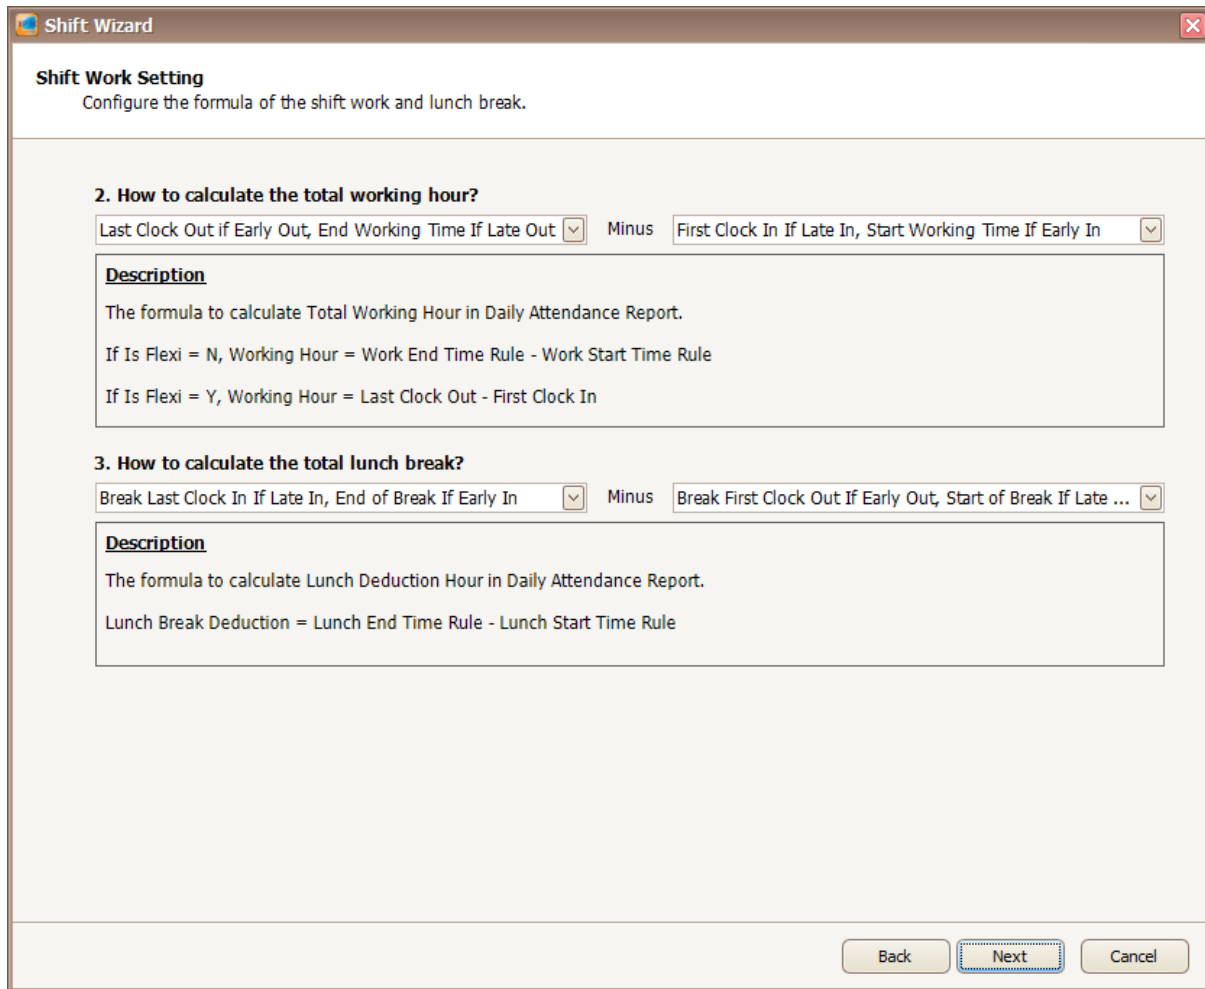

Figure 55- Configure formula of shift work and lunch break
6. The following screen will be shown (Refer **Figure 55**). You need to select the formula to calculate the total working hour and formula to calculate the total lunch break. Click Next to proceed to the next screen.